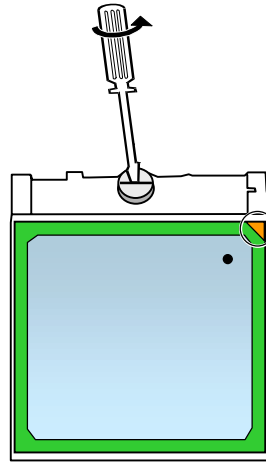

Figure 2-23 Remove the CPU
7. Using a flat screwdriver, rotate the lock of the CPU socket until the arrow points to the “O” position for removing the CPU. (Figure 2-23)